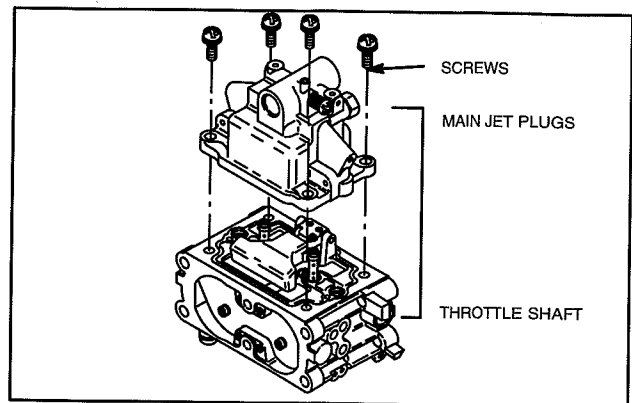

Fig. 59 – Install Lower Body
11. Assemble lower body with main jet plugs facing throttle shaft side of carburetor. Make sure gasket remains in position, Fig. 59. Tighten screws securely.